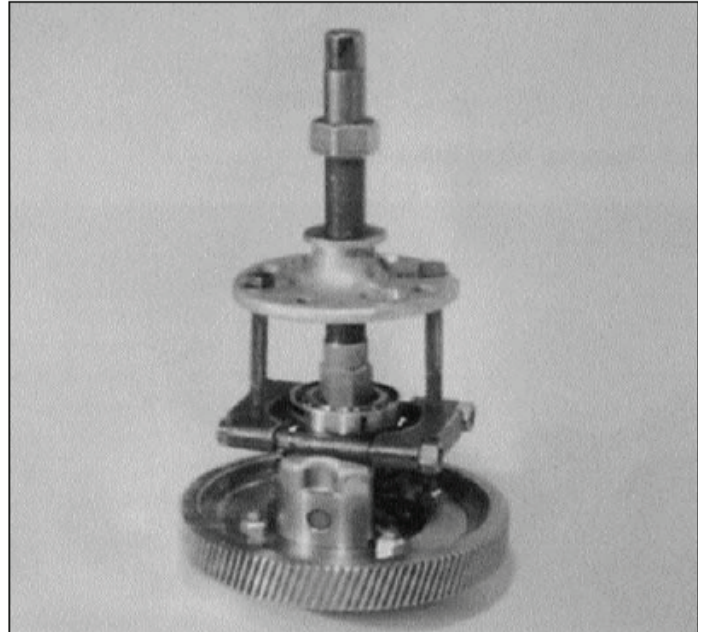

Figure 7-14. Removing Differential Bearings
10. Using a bearing puller, remove differential bearings (8) from each side of the differential case. See Figure 7-14.